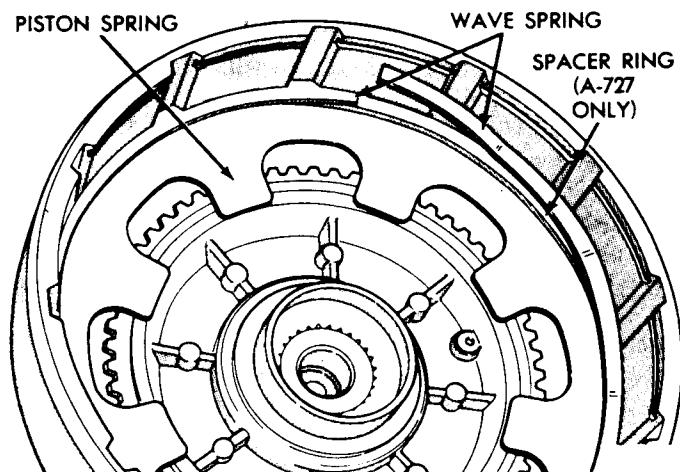

Fig. 18—Installing Rear Clutch Spring
- (3) Place piston assembly in retainer and, with a twisting motion, seat piston in bottom of retainer.
- (4) Place clutch piston spring on top of piston in clutch retainer. Start one end of wave spring in retainer groove (Fig. 18), then progressively push or tap spring into place making sure it is fully seated in the groove.
- (5) Install inner pressure plate in clutch retainer with raised portion of plate resting on the spring.